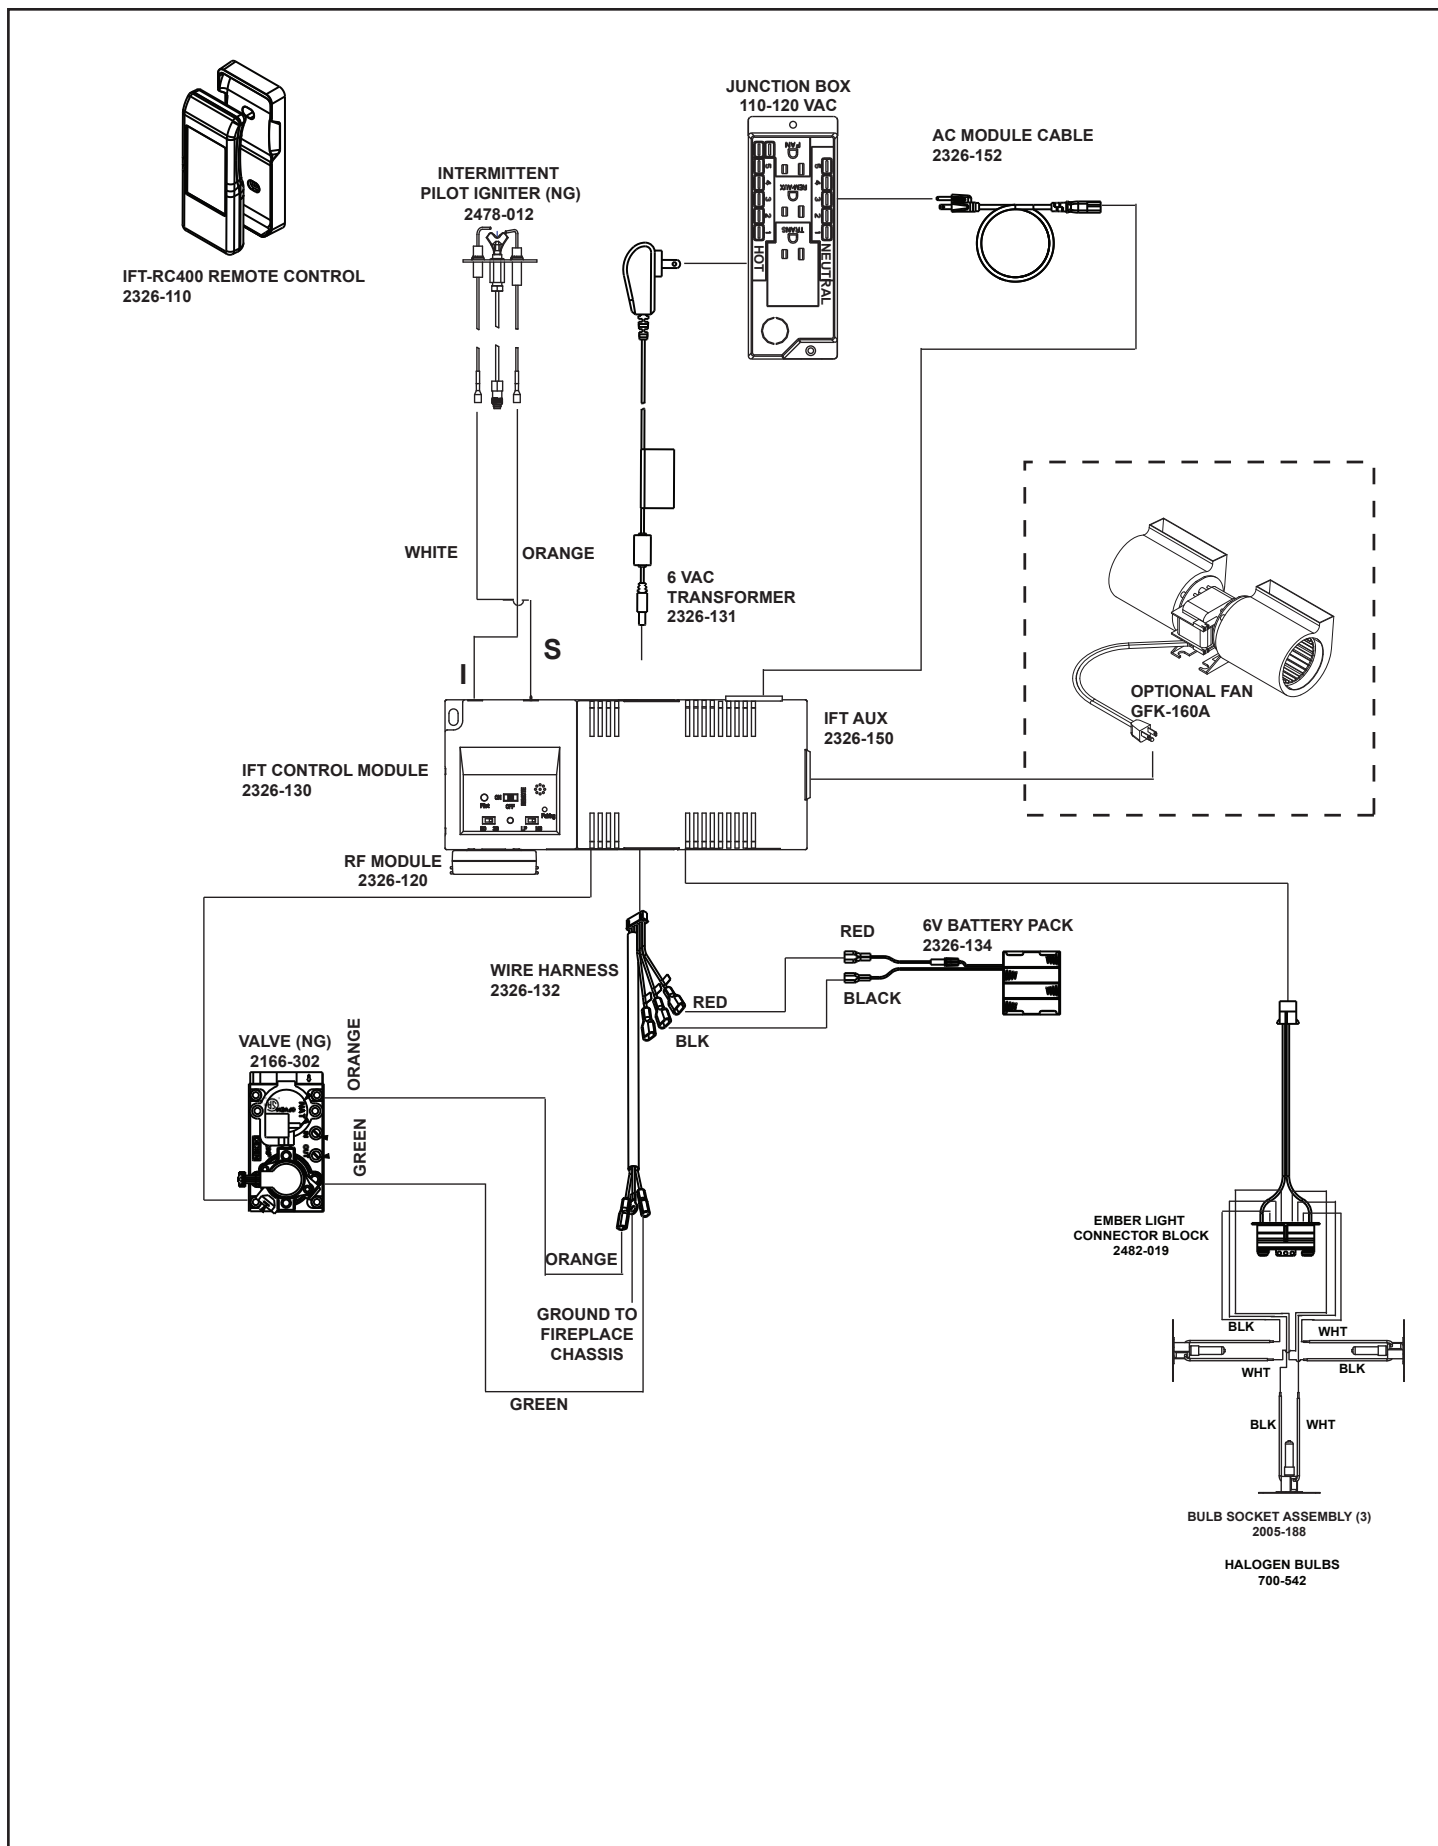

Figure 8.2 IntelliFire Touch Wiring With Remote
- Refer to Figure 8.2, IntelliFire Touch® (IPI) Wiring Diagram.
2. Plug the fan into the AUX. See Figure 8.2 for fan and AUX connection.